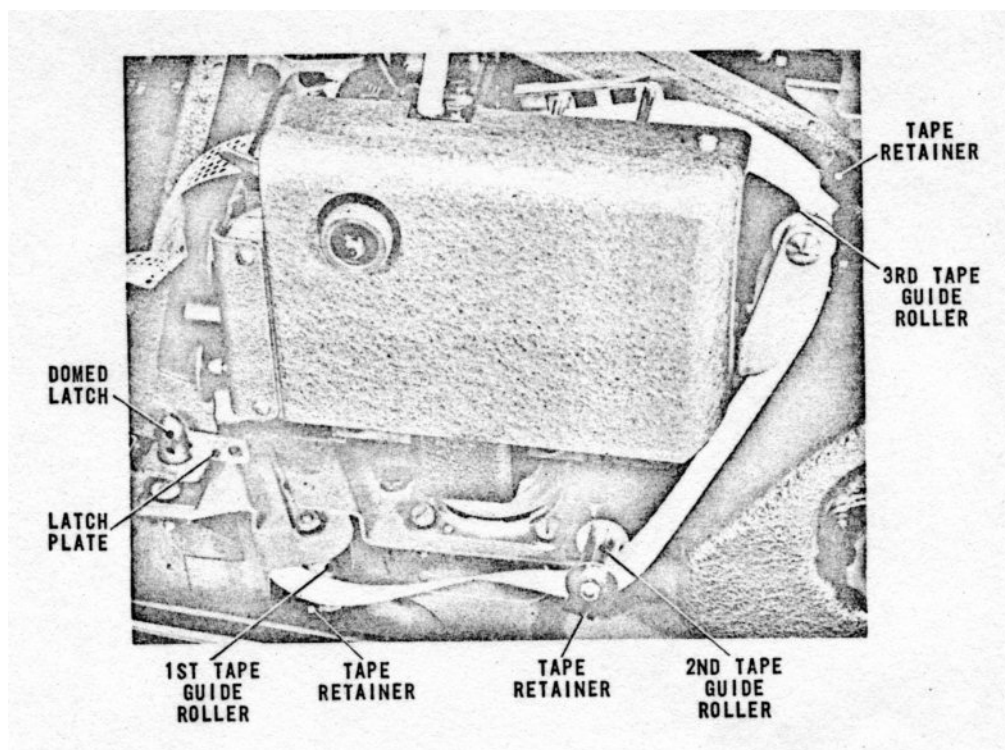

Fig. J.12 TAPE PATH—RIGHT-HAND VIEW
- (e) Turn the tape clockwise through 90° and pass it between the second tape guide roller and its retainer, as shown in Fig.J.12.